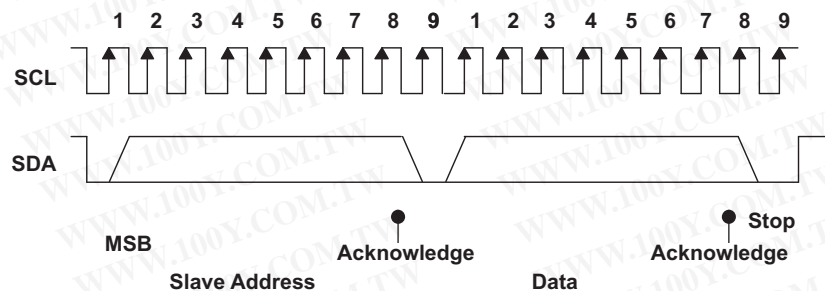

Figure 73. I²C Address and Data Cycles
- The master generates further SCL cycles to either transmit data to the slave (R/W bit 1) or receive data from the slave (R/W bit 0). In either case, the receiver must acknowledge the data sent by the transmitter. Thus, an acknowledge signal (A) can either be generated by the master or by the slave, depending on which one is the receiver. The 9-bit valid data sequences consisting of 8-bit data and 1-bit acknowledge can continue as long as necessary (see Figure 73).